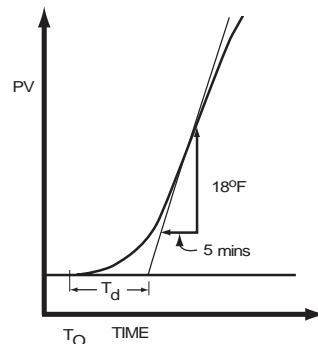

Figure 8. System Time Delay
3. Draw a line from the point of maximum slope back to the ambient temperature axis to obtain the lumped system time delay T_d (see Figure 8). The time delay may also be obtained by the equation:
Example: The chart recording in Figure 8 was obtained by applying full power to an oven. The chart scales are 10°F/cm , and 5 min/cm . The controller range is 100 to 600°F , or a span of 500°F .